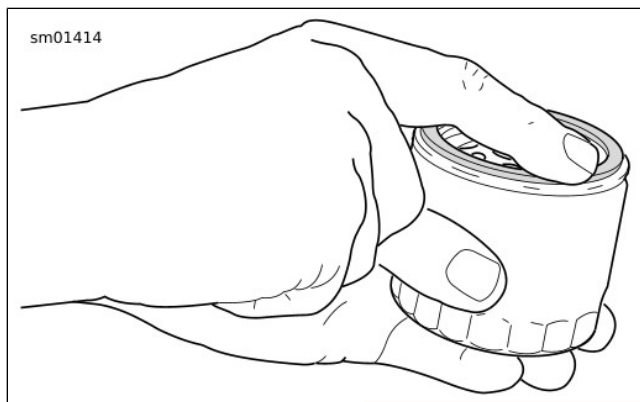

Figure 57. Lubricating New Oil Filter Gasket
7. See Figure 57. Install **new** oil filter.